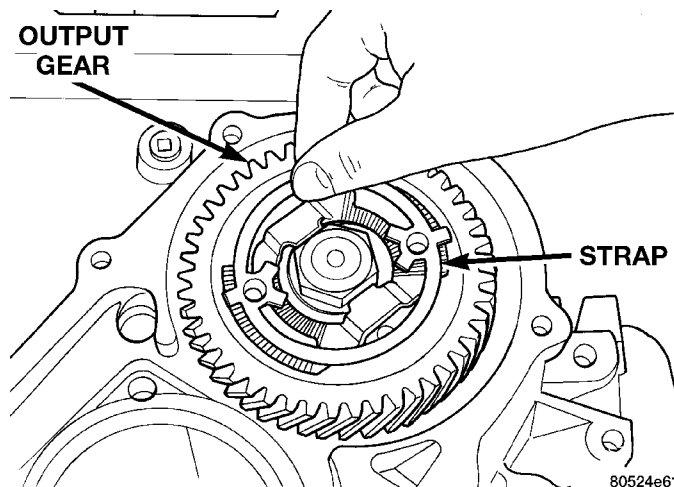

Fig. 155 Remove Strap From Stirrup and Gear
(3) Remove strap from output gear and stirrup (Fig. 155).